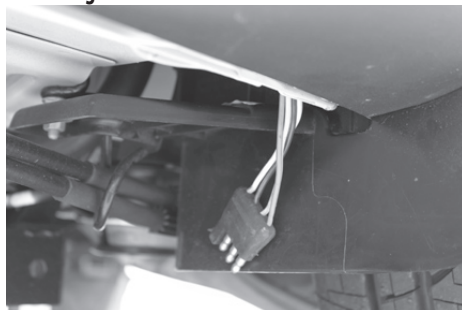

Figure 4
10. Starting at the left side of rear driver's side wheel well route a fish tape up and over to the right side. Secure the 4-Flat connector to it and pull through the wheel well cover shown in **Figure 4**.